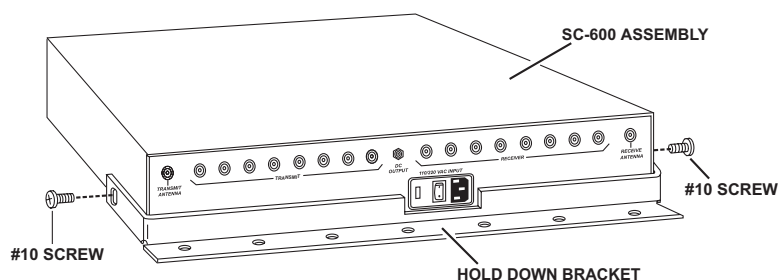

Figure 8
- Install the hold down bracket. Remove hex head machine screws located on SC-600 chassis on both sides in the rear part of side panels. Align mounting holes of hold down bracket to threaded holes for the screws. Insert screws and tighten until snug. Use appropriate fasteners to secure hold down bracket to desired mounting surface. See Figure 8.